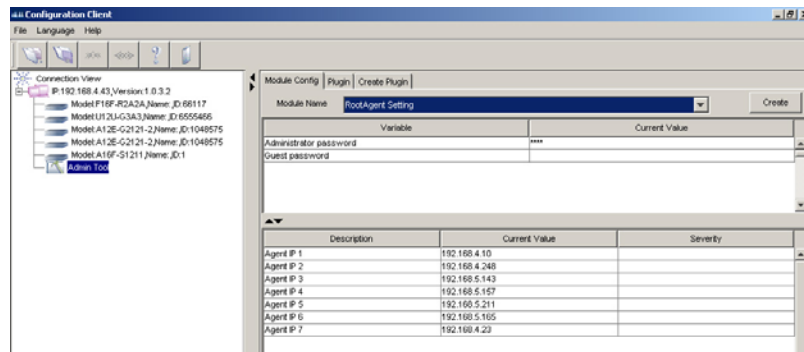

Figure 4-3: Configuration Client Window
Step 3. Click on *Configuration Client* to activate the Configuration Client window as shown in *Figure 4-3*. The Configuration Client program allows you to configure the following items: